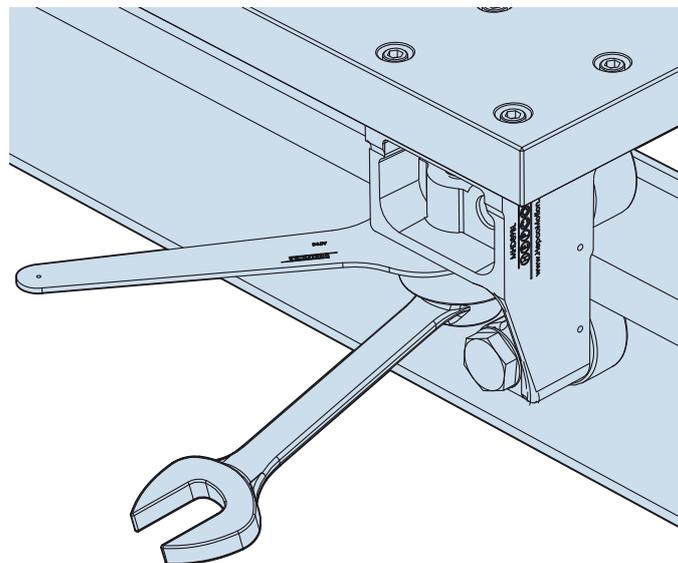

Figure 5
18. Adjust the eccentric side bearings [Item 6] of the adjustable blocks in the following way: Back off the fixing bolt [Item 9] using a standard 41 mm spanner/socket to allow the eccentric bush [Item 8] to be rotated against moderate resistance using a 40mm Hepco AT95 spanner. Rotate the bush in an anti-clockwise direction, with respect to the head of the fixing bolt, until the bearing just contacts the running surface. Tighten the fixing bolt to  $\sim 250\text{Nm}$ , while maintaining the position of the eccentric bush by holding it with the AT95 spanner. Finally, assess the contact condition by rotating the bearing against the track using firm hand pressure. If the bearing does not skid readily, then re-adjust the bearing eccentric. Figure 5 shows the above procedure.